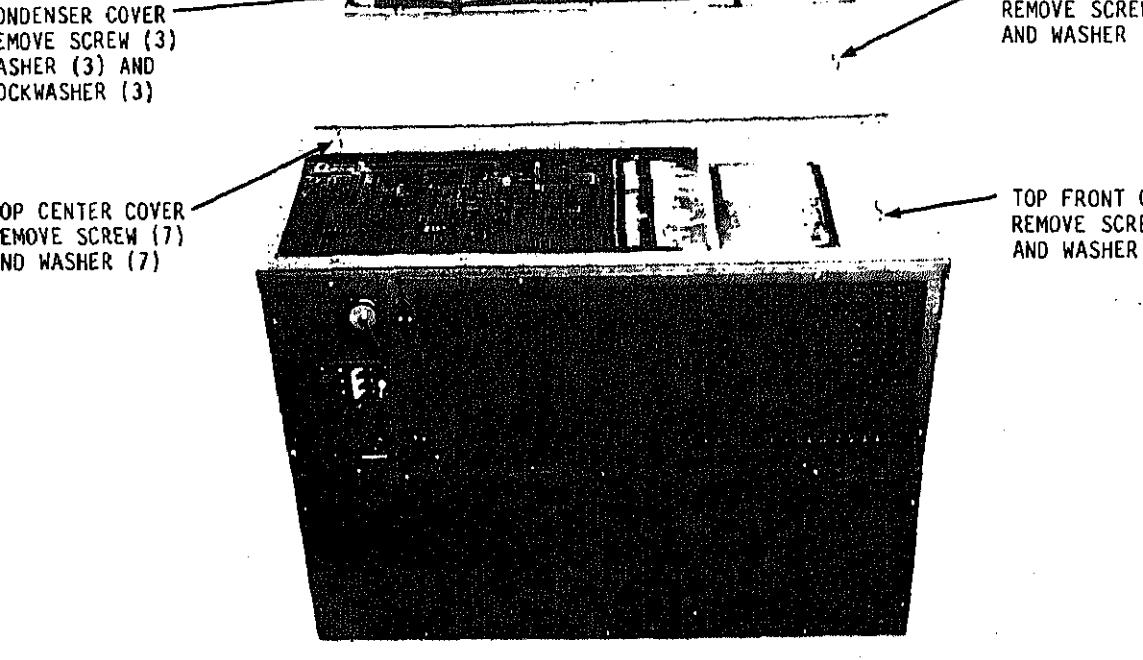

Figure 4-4. Top covers and condenser cover, removal and installation
(1) Refer to figure 4-4 and remove top front cover. Remove this cover first as it provides access to one screw of the center cover that is not visible from the outside.
(2) Remove condenser cover and top rear cover.
(3) Remove top center cover.
c. Installation. Refer to figure 4-4 and install top covers and condenser cover as follows:
(1) Install top center cover.
(2) Install top rear cover and condenser cover.
(3) Install top front cover.
a. Removal. Refer to figure 4-4 and remove evaporator inlet and outlet covers.
(1) Refer to figure 4-4 and remove front cover.
(2) Refer to figure 4-4 and replace top front cover.